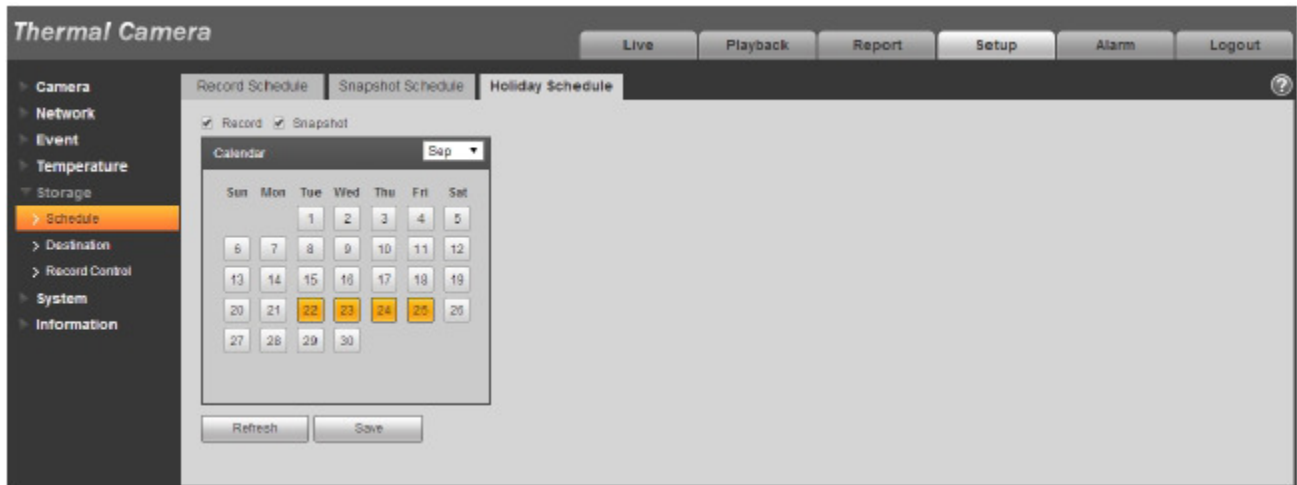

Figure 5-63
Step 1. Click on Holiday Schedule tab, see Figure 5-63.